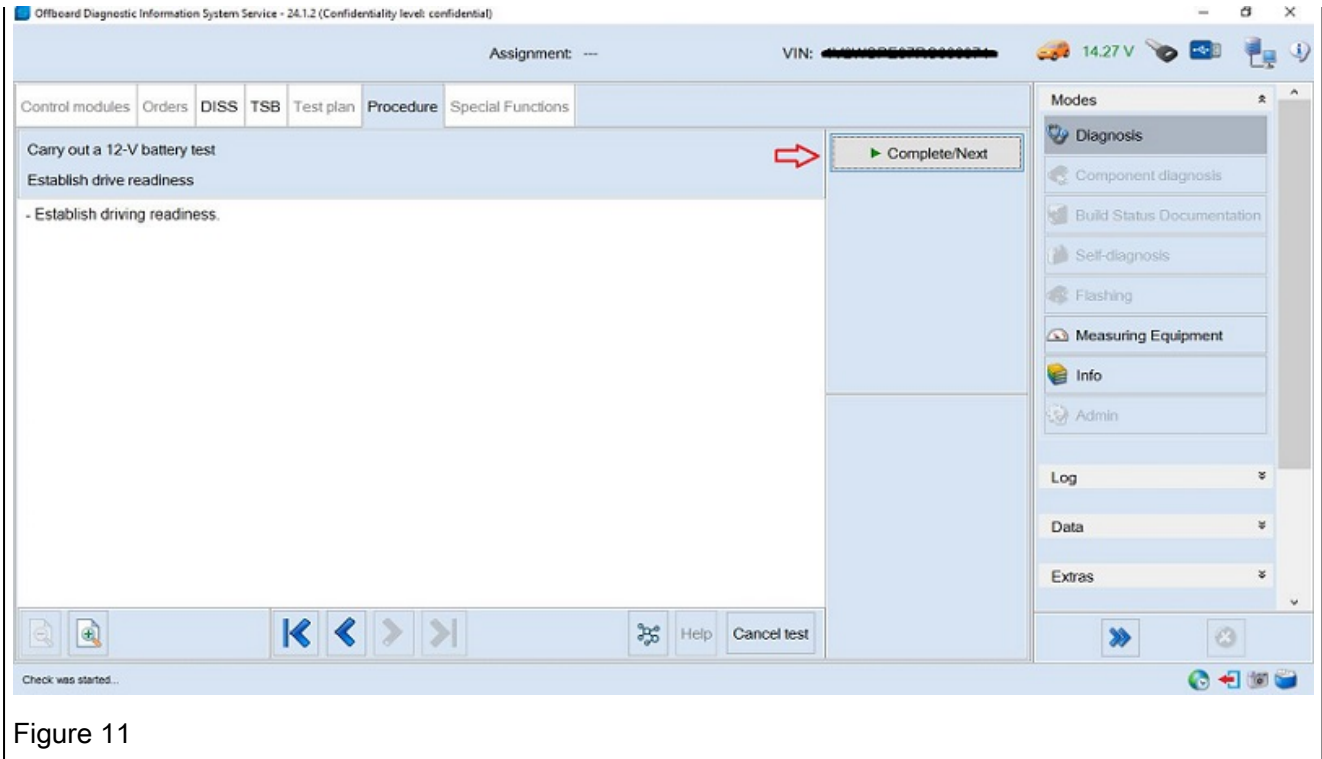

Figure 11
11. In order to establish drive readiness depress the Complete/Next button (Figure 11).